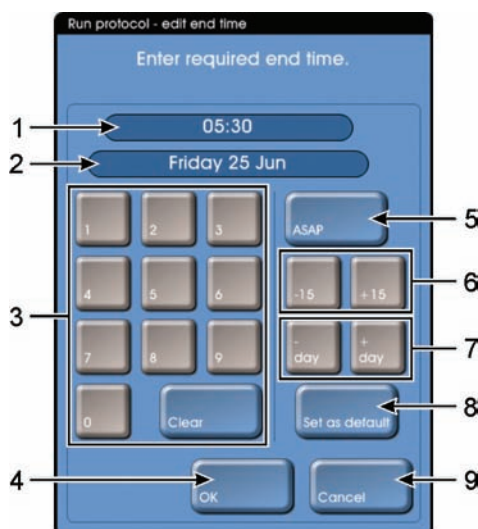

Figure 70: Edit end time dialog box
Use the following procedure to manually enter the required end time from the "Scheduling" dialog box (refer to Figure 70 for item references).
2. The edit end time dialog box displays the required end time (in 24 hour format) and the required end date (see items 1 and 2 in Figure 70).
3. Enter the new time (in 24 hour format) using the on-screen keypad (3).